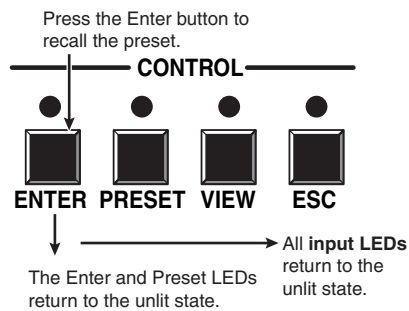

Figure 3-41 — Press the Enter button
- Press and release the Enter button (figure 3-41). The configuration stored in memory location 13 (MVX 128 VGA A) or location 17 (MVX 1212 VGA A, MVX 168 VGA A, MVX 1616 VGA A) is now the current configuration and can be viewed in the *View-only* mode (see example 4, earlier in this chapter).